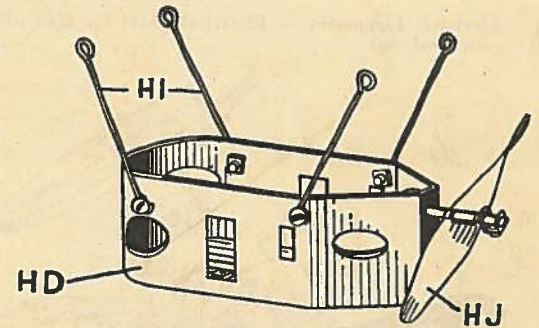
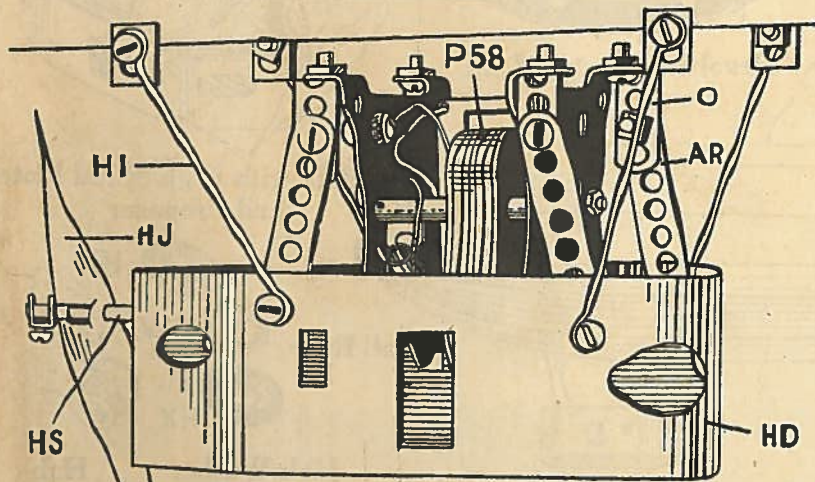

Fig. 6 Gondola, Struts and Propeller
Fig. 7 Motor Assembled in Gondola attached to Frame
**GONDOLA ASSEMBLY** Assemble as in Fig. 6. If you want to motorize your Zeppelin, place motor in gondola as in Fig. 7. Fasten gondolas to angles by means of struts using the long holes in the angles for adjusting them in line. See Fig. 7.